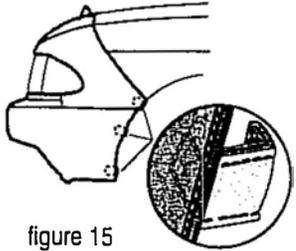

figure 15
2.13 In most cases the wheel well hooks must be bent into the flat-bottomed U shape as shown in figure 15, with the distance between creases determined by the depth of the rolled edge of your vehicle's fender.